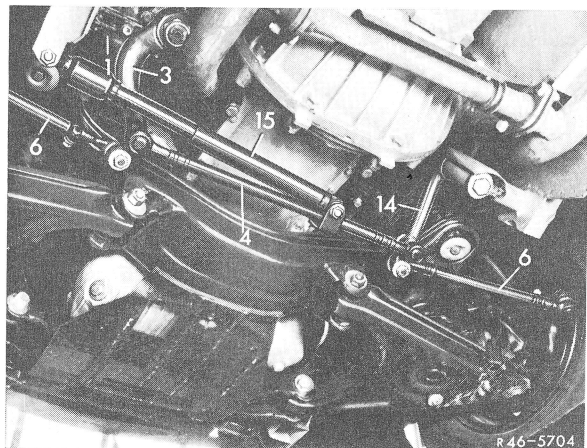

Fig. 2
1 Unscrew castle nuts on joints for track rod (6) after removing cotter pins (Fig. 2).